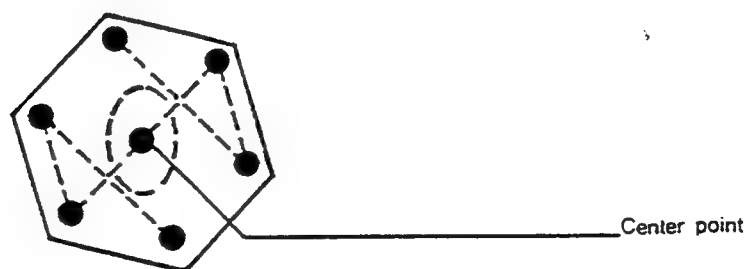

Fig. 15 Matrix Vector Diagram.
- (d) Channel 2 (Y) is connected to TP207 (pin 22 of IC202) (B – Y)
- (e) Adjust amplitude balance VR202 until the centre points of the two wave forms bring together (Fig.15.)
- (f) Adjust T205 until all other points of two waveforms bring together (Fig.15.)